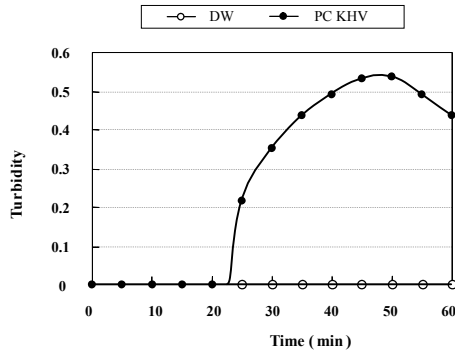

Fig.1 The real-time amplification of Positive Control KHV (PC KHV)²
- (1) Loopamp Realtime Turbidimeters are applicable to this kit. Turn on the device about 20 minutes before use. Set the parameters for detection of KHV.
- (2) Confirm that the temperature has reached 65°C
- (3) Set the prepared reaction tubes and immediately start reaction.
- (4) Check whether the positive and negative controls' turbidity rose from the display screen of the device. If the positive control's (Positive Control KHV (PC KHV)) turbidity rose and the negative control's (Distilled Water (DW)) turbidity didn't, then LAMP reaction proceeded properly (Fig.1). If not, there might have been error in the process. Restart from reagent preparation and check again.
- (5) If the increase in turbidity is confirmed within 60 minutes, then it is judged as positive, if not, negative.
- (6) After enzyme inactivation (80°C, 2 min), is confirmed to have ended, done automatically by LoopampRealtime Turbidimeter, remove the used reaction tubes and dispose them with caps closed.